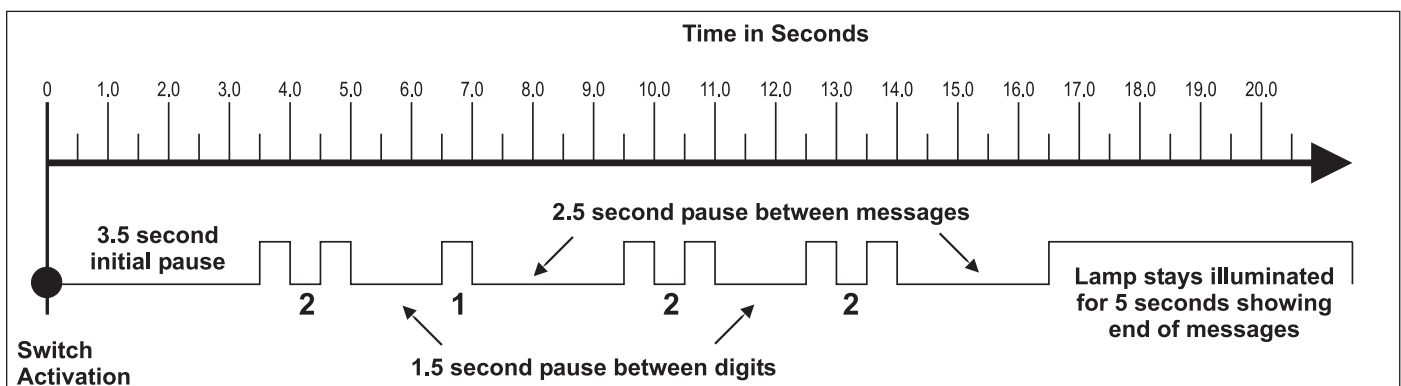

FIGURE 15 - EXAMPLE OF A BLINK CODE MESSAGE
2. For the Bendix ESP EC-80 Controller to recognize that the switch is activated “on,” the technician must press for at least 0.1 seconds, but less than five (5) seconds. (If the switch is held for more than five (5) seconds, the ECU will register a malfunctioning switch.)
3. Pauses between pressing the switch when a sequence is required, (e.g. when changing mode) must not be longer than two (2) seconds.
4. After a pause of three-and-a-half (3.5) seconds, the ECU will begin responding with output information blinks. See *Figure 15 for an example.*